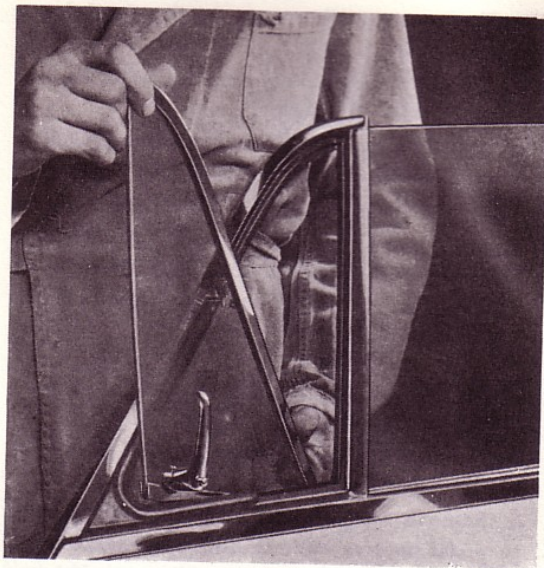

Fig. 23. Taking out ventilation window without frame.
3. Turn the ventilation window fully open and press it downwards so that the upper hinge releases, after which the window can be removed as shown in Fig. 23.